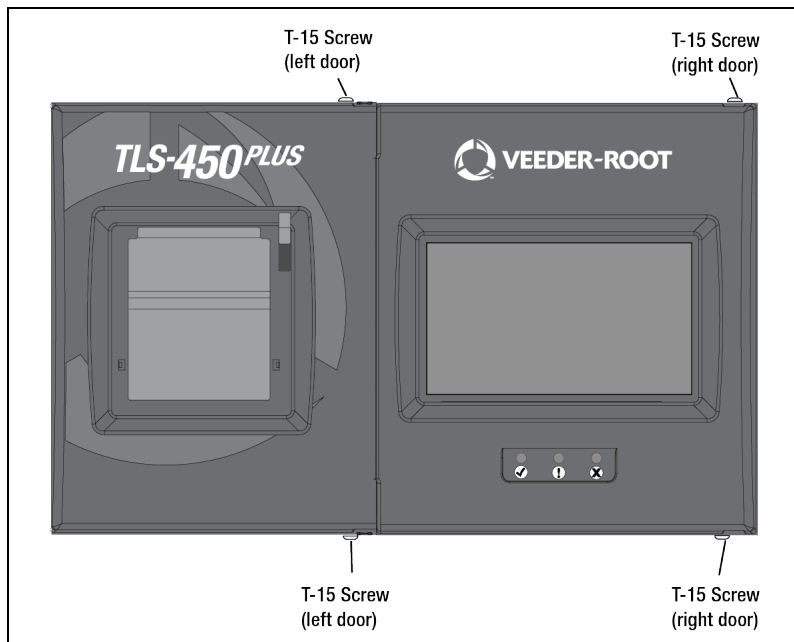

Figure 2. Opening the TLS-450PLUS Console Doors
1. Remove the both left and right door screws (with a T-15 Torx screwdriver) and swing open both doors to the left (see Figure 2).